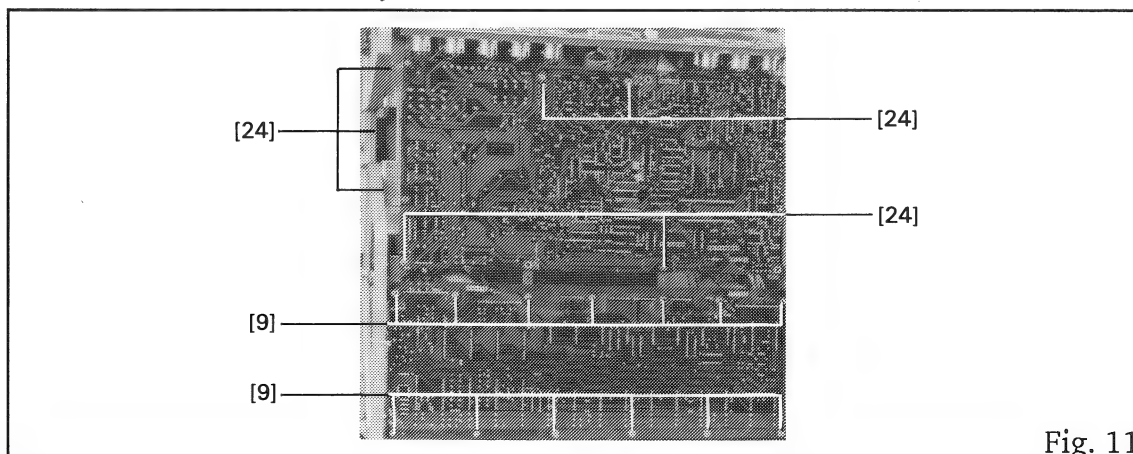

Fig. 11
- Unfasten the 13 screws [9] on the AUDIO BASIS BOARD (see Figure. 11).